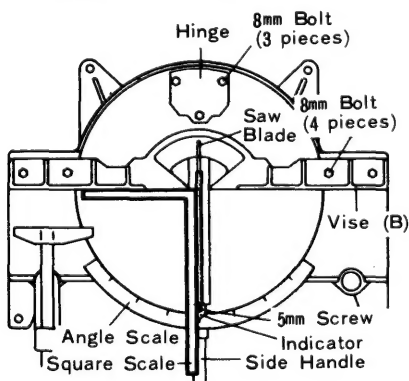

Fig. 6
- (2) As shown in Fig. 6, measure the angle made by vise (B) and the slide